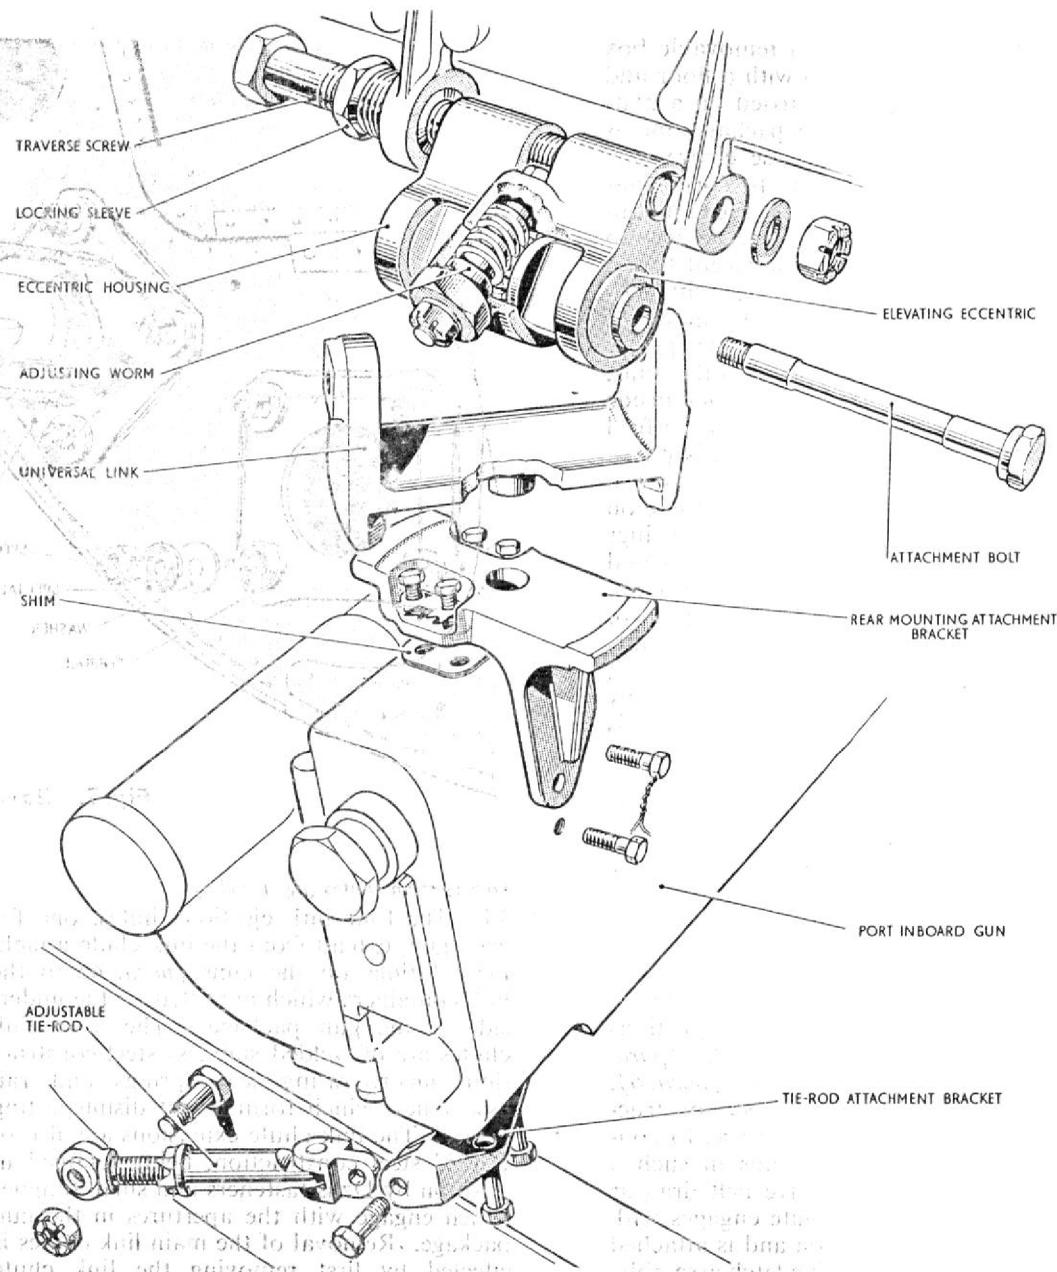

Fig. 6. Port inboard gun rear mounting
8. The gun rear mountings, which also form the harmonization assemblies are illustrated in fig. 6, those for the inboard guns pick up with lugs integral with former D of the package, while those for the outboard guns pick up with similar lugs integral with former E. The inboard guns only, are provided with small adjustable tie rods extending from the bottom of former D to engage with the small rear mounting brackets on the cradles of these two guns. These rods must be disengaged before harmonization of the inboard